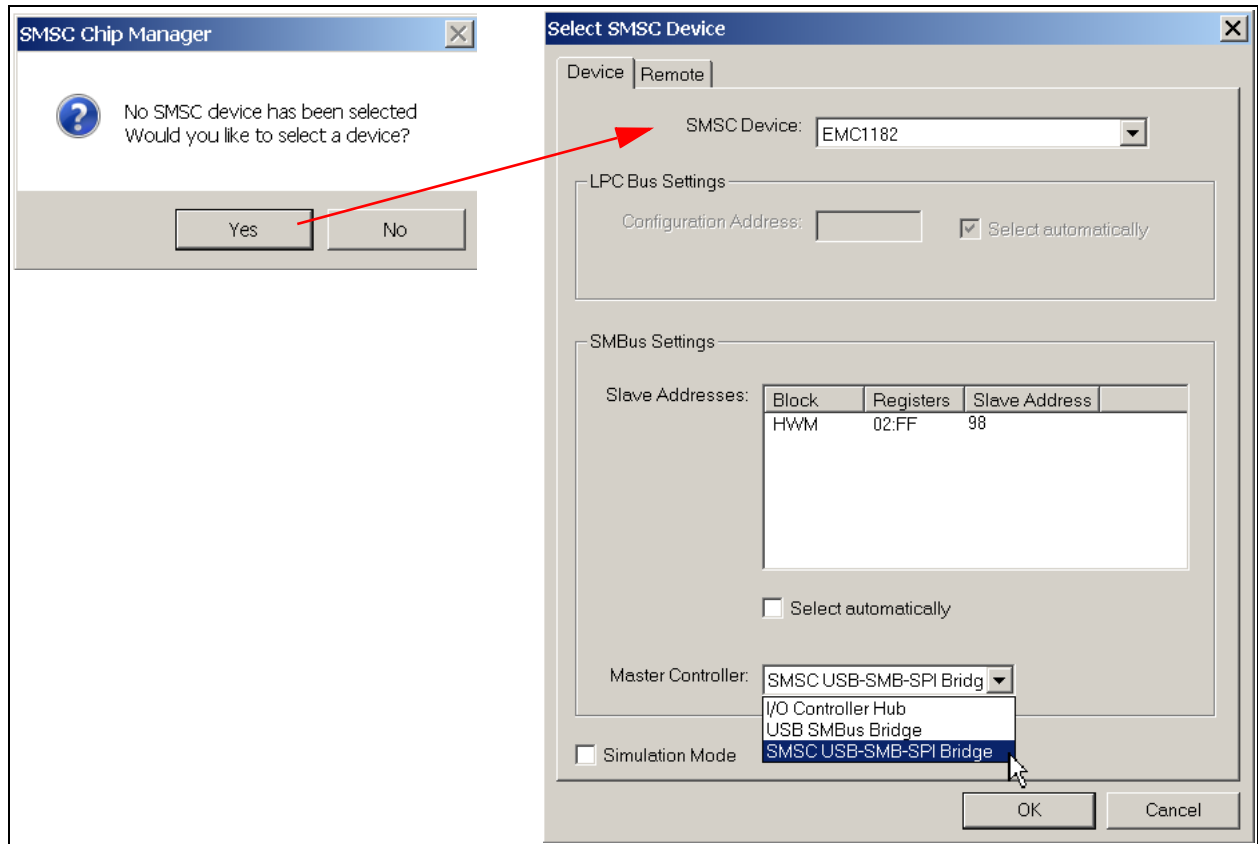

FIGURE 2-8: Select SMSC Device Window.
10. If a message stating that no device has been selected appears, click **Yes** to select a device. Alternatively, go to the Chip Manager's main menu, select **Options > Select Device**. In either case, the Select SMSC Device window displays, as shown in Figure 2-8.